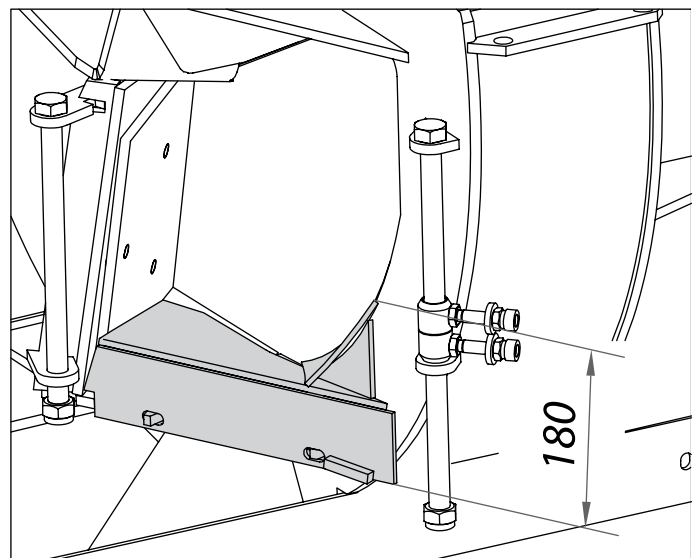
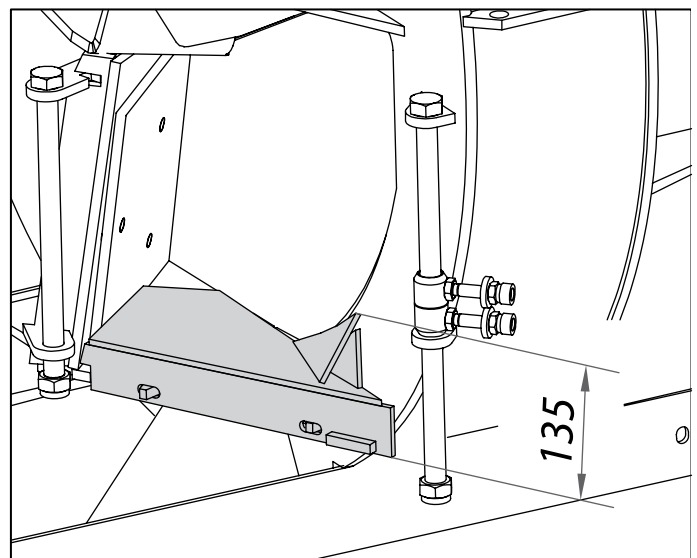

Fig. 6a. Installation of the fitting block HF231
Fig. 6b. Installation of the fitting blocks HF260-EM, HF260-EL and HFC260
- For hydraulic feed units, a fitting block is supplied which is to be installed between the chipper and the feed unit. Please make sure to install the appropriate fitting block. The fitting block for the feed unit HF231-HM has a height of approx. 180 mm, see fig. 6a. The fitting block for the feed units HF260-EM, HF260-EL and HFC260 has a height of approx. 135 mm. See fig. 6b.
- The fitting block is installed on the pins in the bottom section of the feed opening. See figs. 6a and 6b.